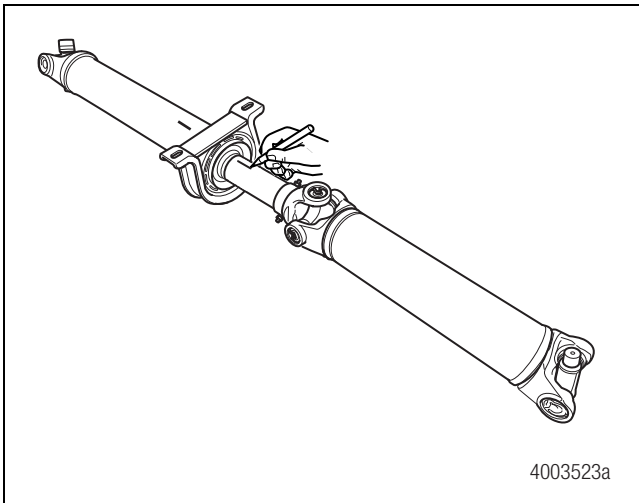

Figure 8.15
1. Mark the slip yoke and slip shaft sections to ensure that you reassemble them into their original positions. Figure 8.15.